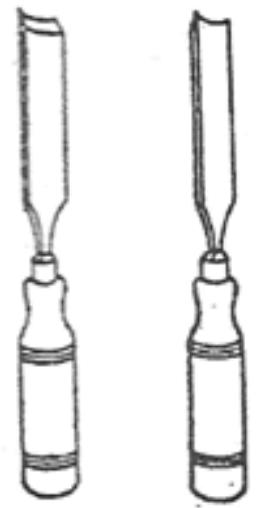

Figure 25 Gouges
**Gouges.** Gouges (Fig. 25) are chisels with curved sections and may be either inside or outside ground. Inside ground gouges are used in exactly the same way for inside curved edges as a chisel would be for straight one ; outside ground gouges are used for curving hollows. Outside ground gouges are known as firmer gouges and inside ground gouges are called scribing gouges. When the later are made long and thin they are paring gouges. Gouges are made to large number of different curves for different work, and the size ranges from 6-mm, with intermediate sizes to a maximum of 40 mm wide.